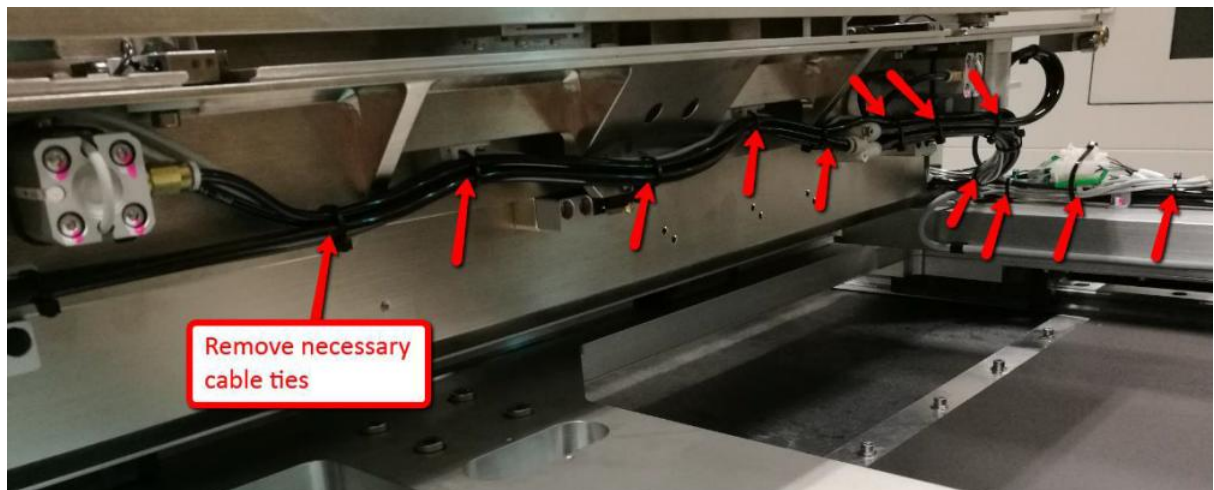

Figure 26 Cable ties Removal
4. Remove necessary cable ties as shown in Figure 26 below.